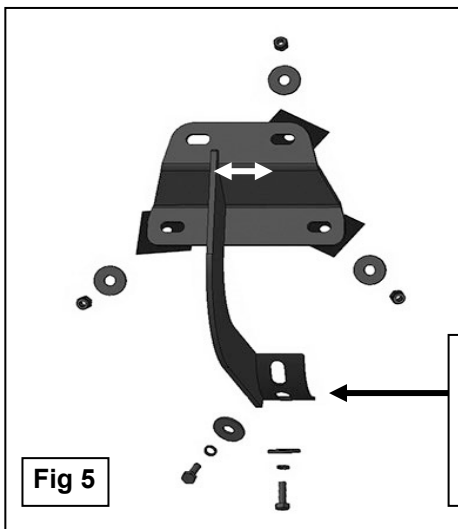

Fig 5
4. Repeat **Steps 1—3** to install the (2) remaining center and rear passenger side Brackets.
5. Select the passenger/right Sidebar. Carefully position the Sidebar onto the (3) Mounting Brackets. **IMPORTANT: Do not slide, (front to back or rotate), the Sidebar on the Brackets or damage to the finish on the Sidebar may result. Attach the Sidebar to the Mounting Brackets with (6) 8mm x 25mm Hex Bolts, (6) 8mm Lock Washers and (6) 8mm Flat Washers, (Figure 5).** Do not tighten hardware.